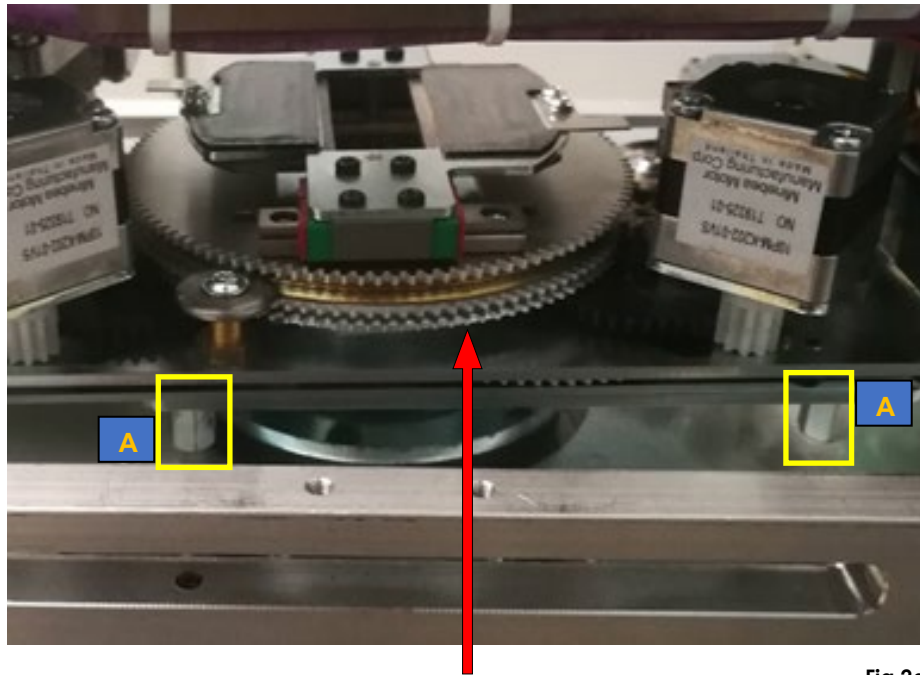

Fig.2a
- If not properly centered, loosen the 3 rods "A" (Fig. 2a and 2b), shifting this unit as required.